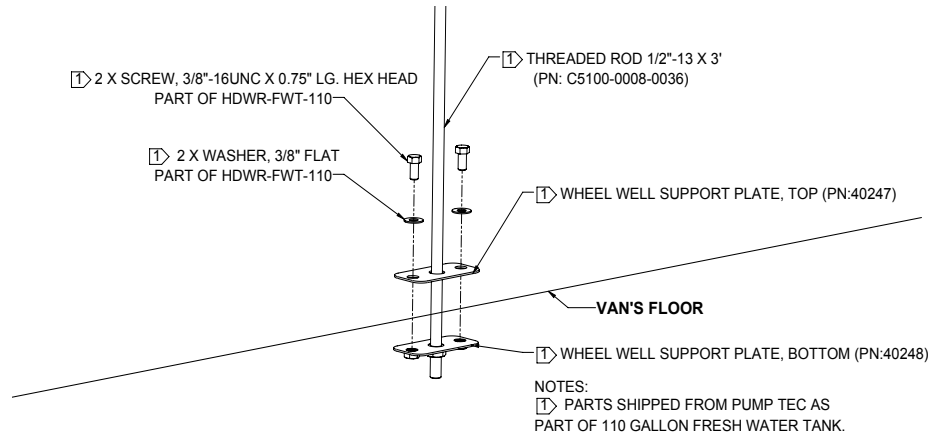

Figure 83. Attached the All Thread Rod to the Van's Floor.
7. From inside the van, slide the Wheel Well Support Plate, Top (PN: 40247) on the All Thread Rod, raise the All Thread Rod along with the Bottom Support Plate, align the two side holes on the Bottom Support Plate with the holes drilled on the van's floor and the Top Support Plate. Mount the assembly using the 2 X 3/8"-16UNC X 0.75" LG. Hex Head Screws and the 2 X 3/8" Flat Washers. (Figure 83)